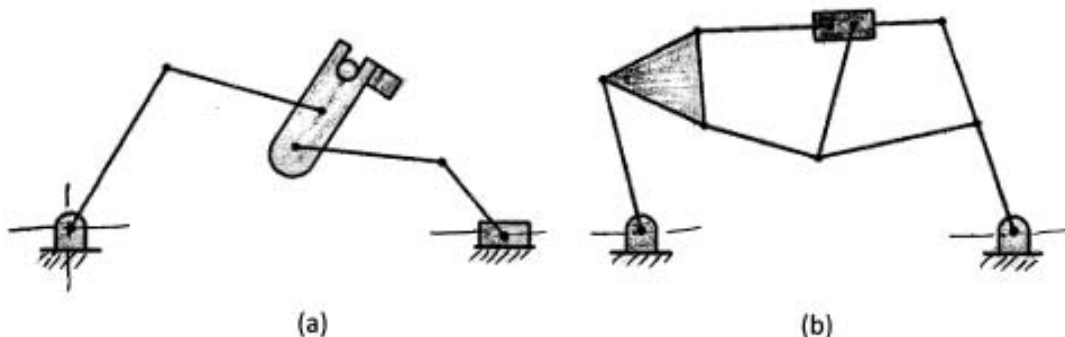

Fig 1
b) Determine the degree of freedom of the mechanisms shown in Fig. 1. **8**